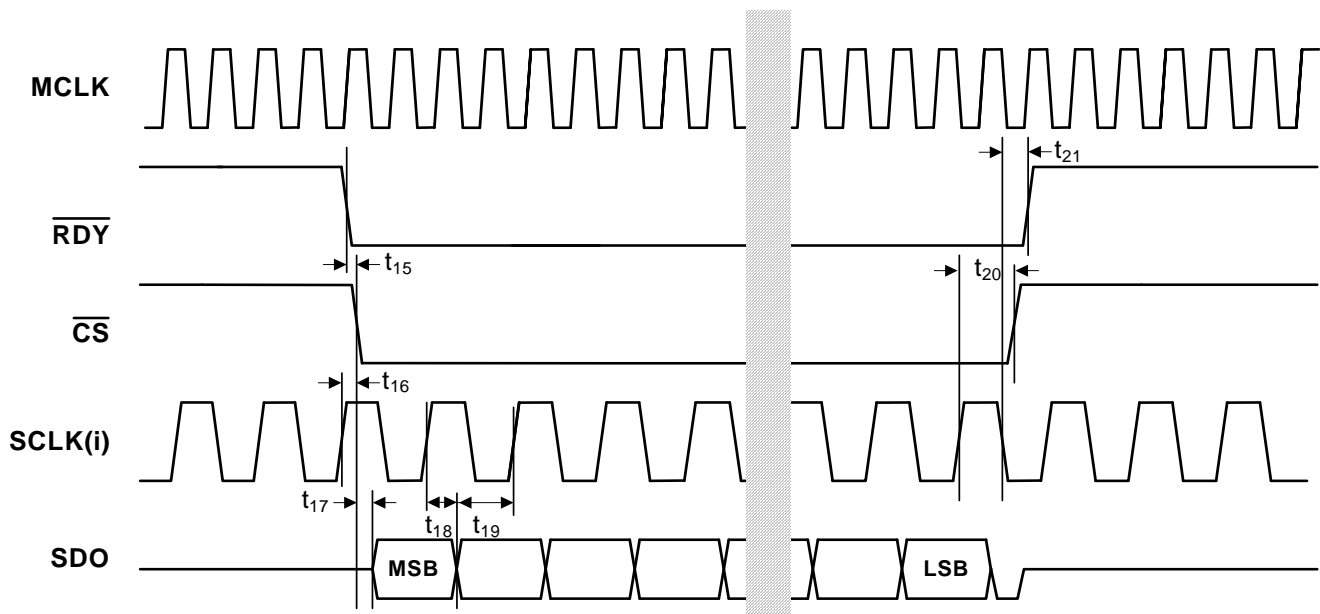

Figure 4. SEC Mode - Continuous SCLK Read Timing (Not to Scale)
16. See Figure 4 to understand conversion timing. The 160 MCLK group delay occurs during the 354 MCLK high-power period of a conversion cycle. See Section 3.2 Power Consumption for more detail.